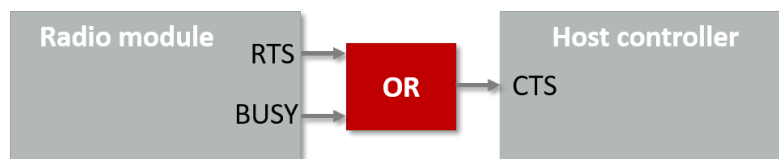

Figure 14: Transparent mode flow control
- **Flow control:** The Thyone-I implements additional *BUSY* pin to indicate that the module is busy doing radio tasks and hence cannot accept any more data on the UART. It is mandatory to implement the Thyone-I *BUSY* pin and enable the UART flow control on the host and Thyone-I, in order to prevent data loss on the UART (Figure 14). In the absence of this flow control scheme, the application must be able to accept/handle loss of data.